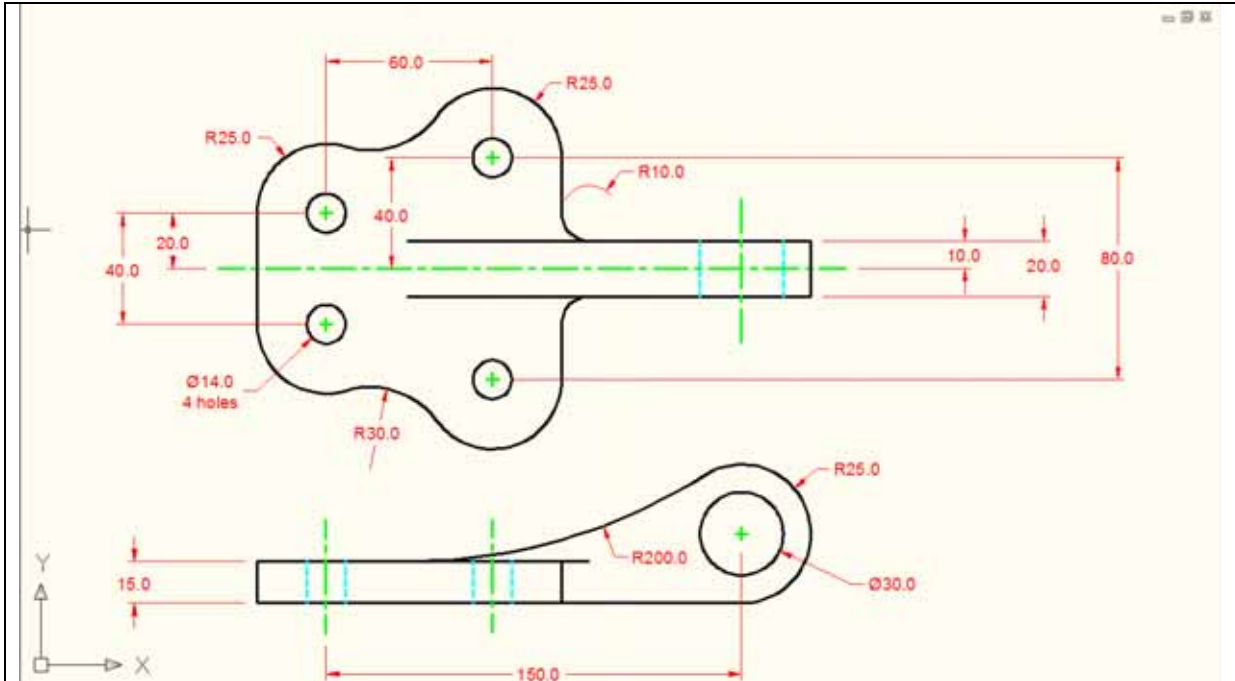

Figure 11.09 – The Bracket Problem with dimensions
*** World Class CAD Challenge 02-22 * - Create a New file using the Metric template, and draw the 66 entities shown in Figure 11.09 in 10 minutes. Continue this drill four times, each time completing the drawing under 10 minutes to maintain your World Class ranking.**